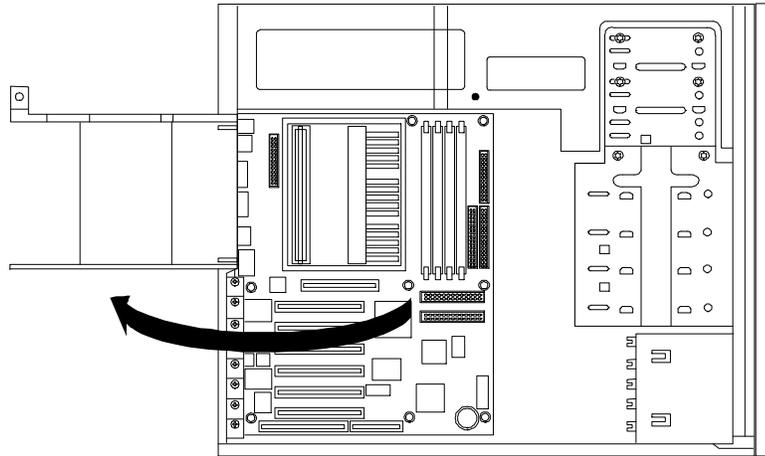

Figure 4-1. Moving the Air Duct
4. Lay the server on its side (components showing). Unsnap the air duct and move it out of the way (see Figure 4-1).
5. Unsnap the air duct and move it out of the way (refer to Figure 4-1).